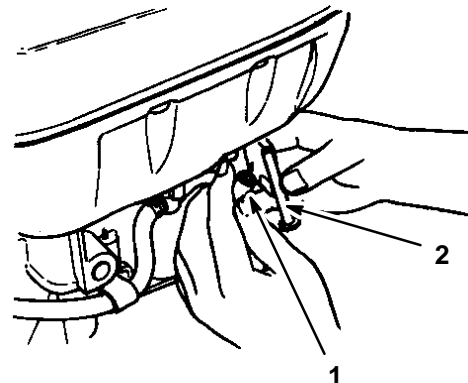

Figure 13
7. Remove the fuel tube on the fuel tank by loosening the tube clamp (Fig. 13).